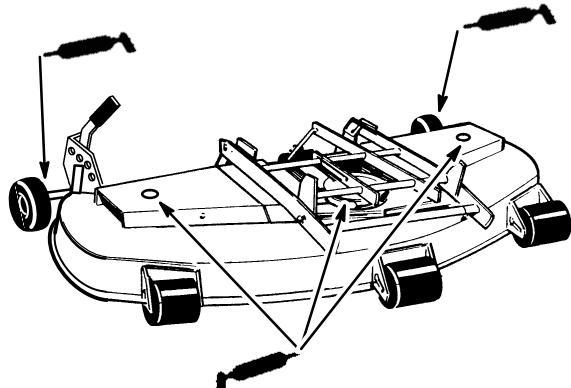

Figure 28
1. Lubricate the blade spindle and gauge wheel bearings (Fig. 28).